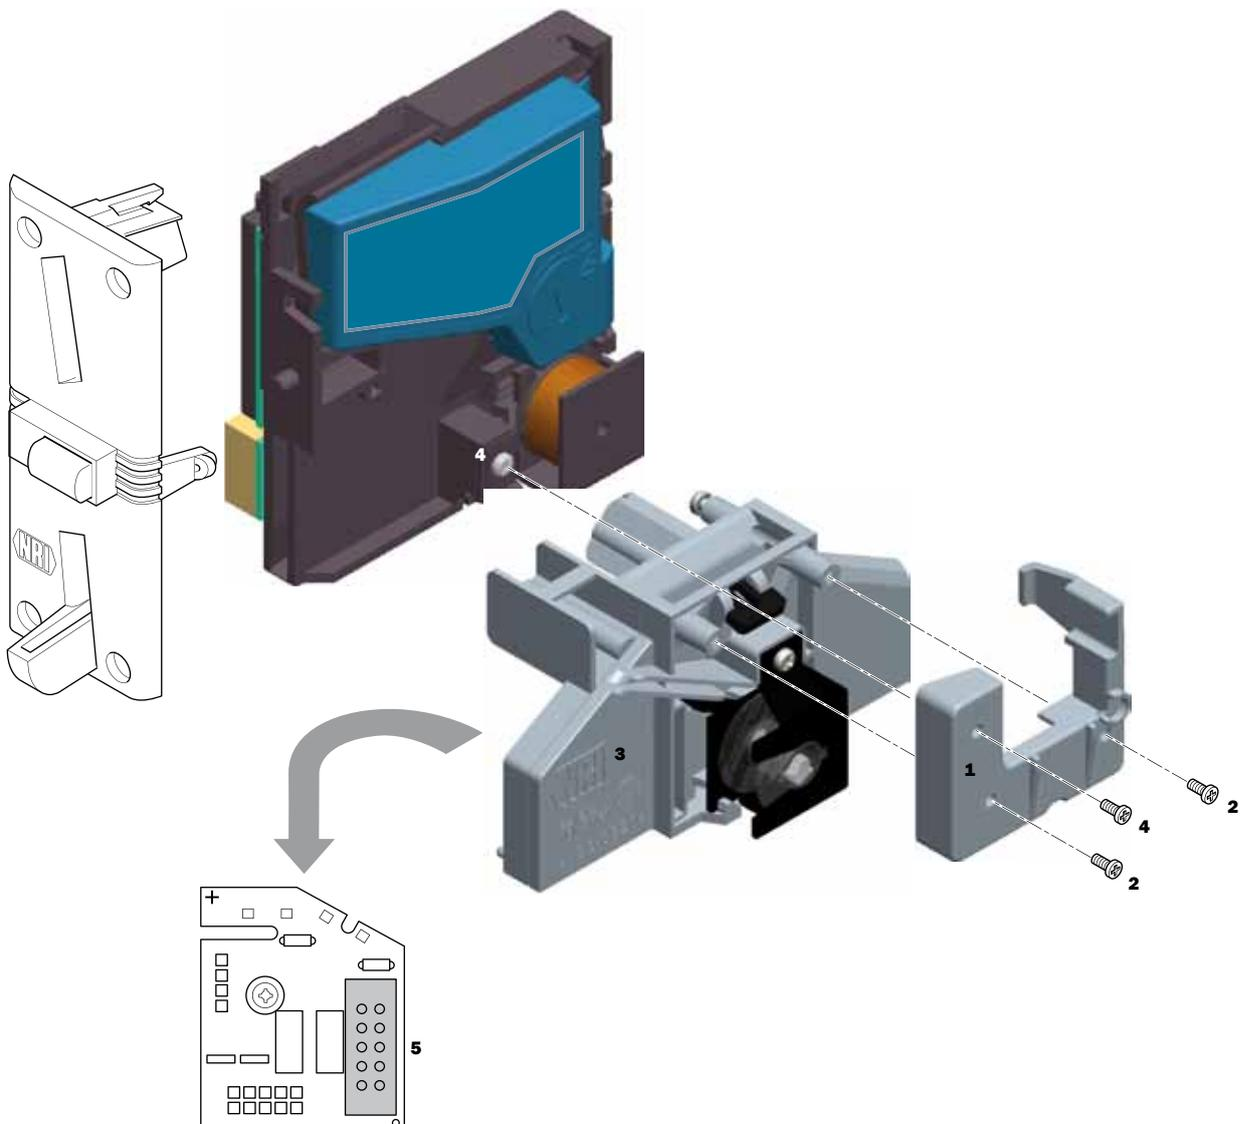

Fig. 11: Connecting the front entry version of the v² colibri to the s² SSD-3004 3-fold sorter
- 1** If necessary, fasten the retaining plate [Fig. 11/1] with the two screws [Fig. 11/2] to the sorter [Fig. 11/3].
- 2** Remove the screw [Fig. 11/4] from the coin validator.
- 3** Using the retaining plate [Fig. 11/1], plug the sorter from the right onto the coin validator.
- 4** Fasten the sorter [Fig. 11/3] on the coin validator with the screw [Fig. 11/4].
- 5** Connect the sorter [Fig. 11/3] to the coin validator by means of the 10-pin sorting connector [Fig. 11/5] on the back of the sorter and of the coin validator with the help of the associated sorting cable.